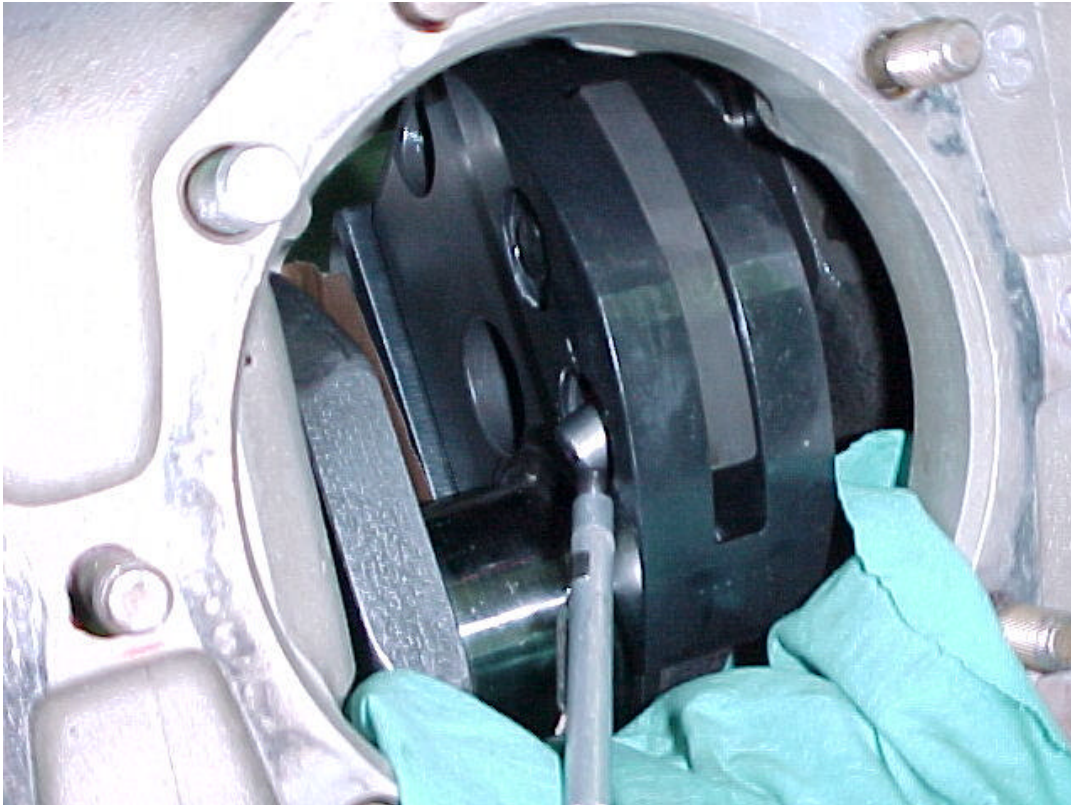

FIGURE 3
2. Using a retrieval magnet, remove the counterweight pins on the crankshaft cheek to be inspected. Document the location of the removed counterweight pins. They must be reinstalled in the location from which they were removed. See Figure 3.